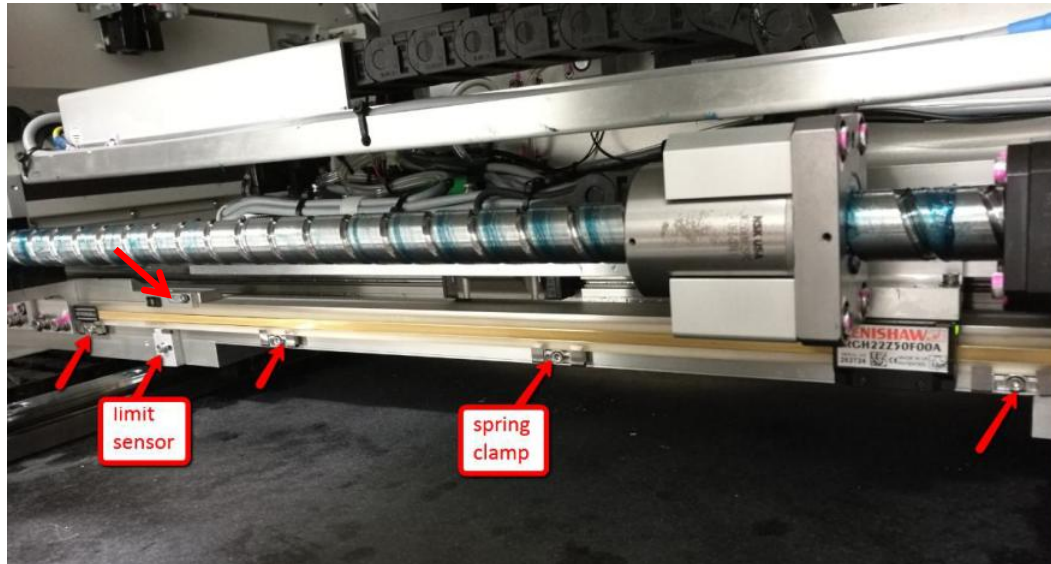

Figure 7 Glass Scale replacement
3. Assemble Home Sensor & Limit Sensor. Tighten all screws which secure spring clamps as shown in Figure 7.